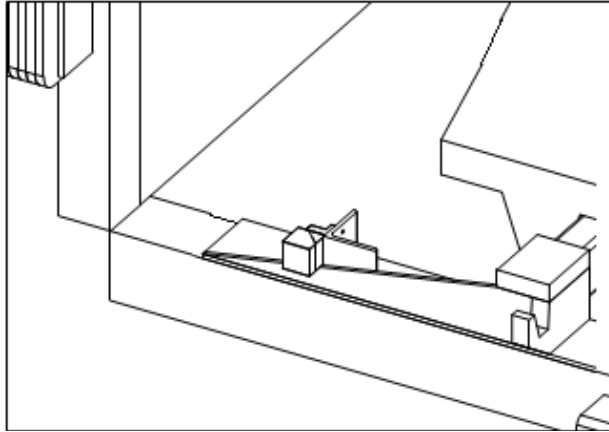

FIGURE 10—INSTALLING PROXIMITY SENSOR BRACKET
2. Check that lip is fully resting on lip keepers and at lowest part of keeper cradle in center. If not, proceed to section: ADJUSTMENTS – ADJUST LIP STOP BOLT(S) on page 20.
4. Place Proximity Sensor Bracket Assembly (CB-1028) on sub-frame as shown in Figure 10 on page 25.